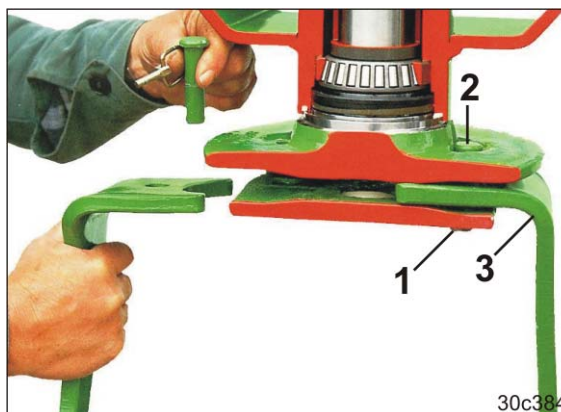

Fig. 162
2. Remove the linch pin (Fig. 162/1).
3. Remove the pin (Fig. 162/2) from the tool carrier by striking it in an upwards direction.
4. Replace the tool tines (Fig. 162/3).